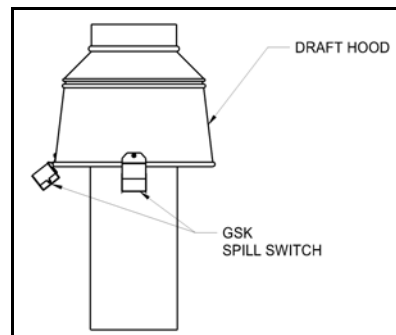
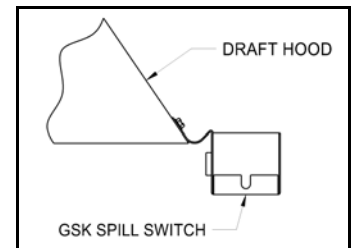

Figure 5
Figure 13
(See Figures 5 & 6 or Figure 13 for water heaters)
1. Two (2) switches are recommended on appliances without a factory supplied spill switch. Mount the spill switch onto the bottom edge of the draft hood and the second switch (if used) approximately 90 degrees from the first switch or 90 degrees from the factory supplied switch. (See Figure 5)
3. Mount the two (2) spill switches onto the draft hood so the switches do not contact any metal. (See Figure 13)